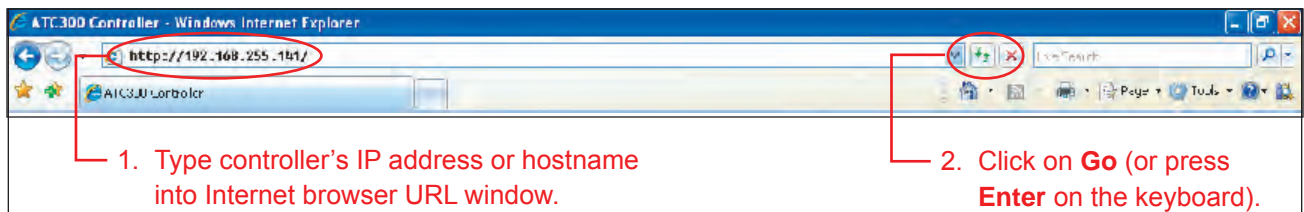

Figure B-1. Entering Controller’s IP Address Into Internet Browser.
- Connection to the controller is made by typing the controller’s static IP address or hostname into an Internet browser’s URL address window. The hostname may be used when the controller is configured for DHCP, and is on a network providing a DHCP server. See Figure B-1.